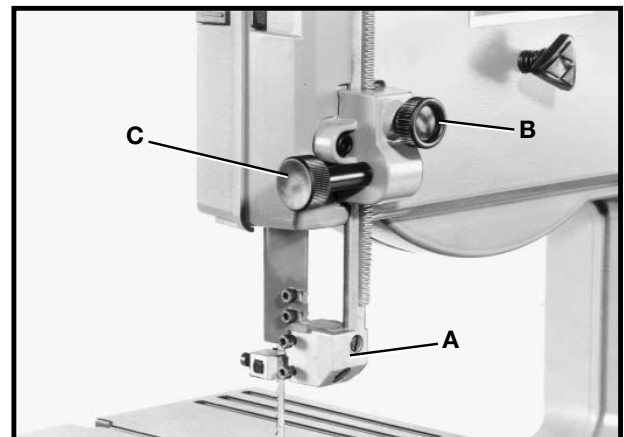

Fig. 21
The upper blade guide assembly (A) Fig. 21, should always be no more than 1/8 in. above or as close as possible to the top surface of the workpiece being cut. Loosen knob (B) Fig. 21, rotate knob (C) and position the guide assembly (A) to the desired position. Then tighten knob (B).